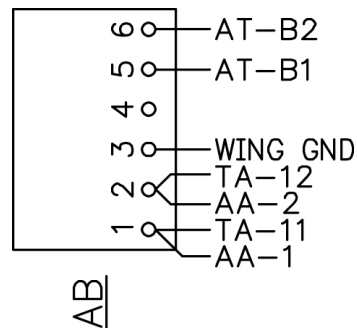

Figure 21—Text Headings
5. All text headings for equipment in panel layout & wiring drawings are to be 1/8" in height as shown with "AB" in Figure 21.